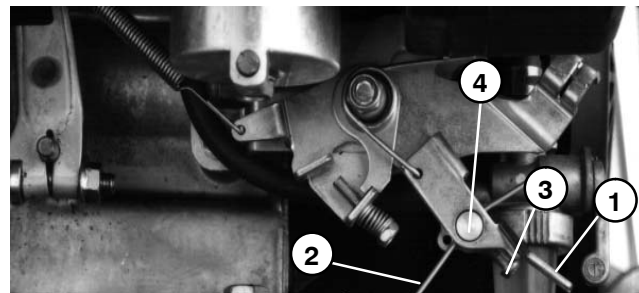

Figure 11
3. Remove throttle cable from the engine governor linkage as follows (Fig. 11):
4. Install cable to the governor lever as follows (Fig. 11):